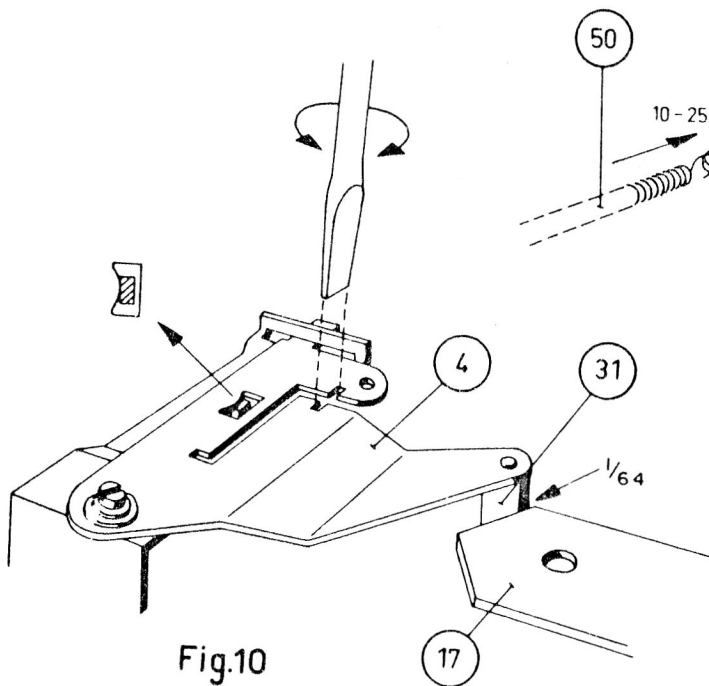

Fig. 10
During a changing cycle, strip 17 is first pushed away from the centre spindle, and then returns to its original position. When strip 17 reaches its extreme position, the roller 31 of the changing lever 4 rests against the oblique end of the strip (see Figure 10). The changing lever turns to the right, thus driving the tail of the centre spindle. The cam of the spindle moves inward, permitting the lower record to drop onto the turntable.
3. In the extreme outward position of strip 17 and with the centre spindle in place, it must be possible to rotate the roller on the changing lever. (Approx. 1/8" clearance). For adjustment see point 2. After this adjustment check point 2 (see Figure 10).